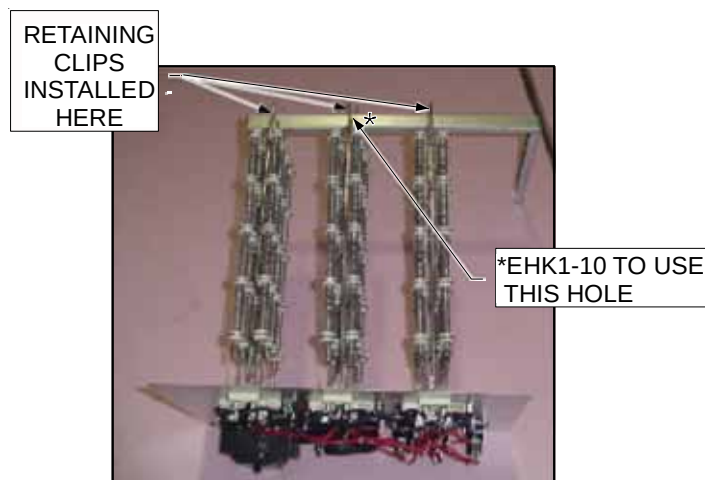

Figure 2
7. Install support legs on heater element bracket, orienting the support legs down and shifted in the same direction as shown in Figure 2. Install support leg retaining clips on each heater element bracket. Note: The support legs must be installed as shown to provide clearance of bottom supply air opening.